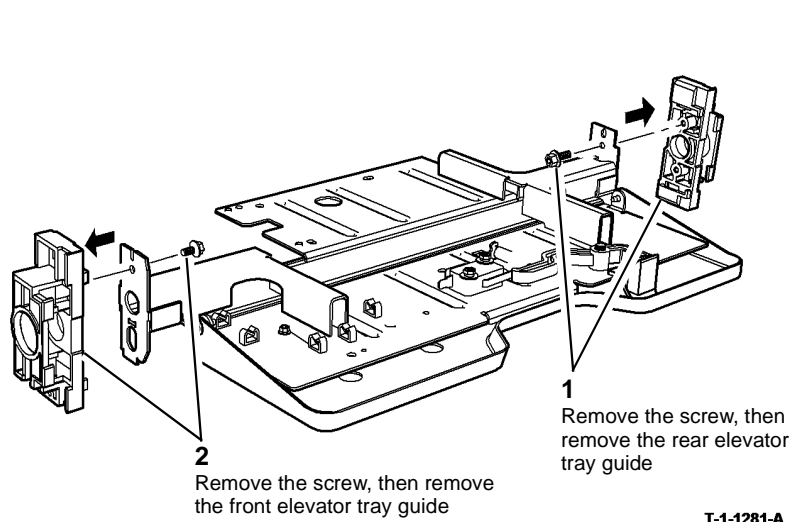

Figure 4 Elevator tray guides removal
- Remove the elevator tray guides, Figure 4.